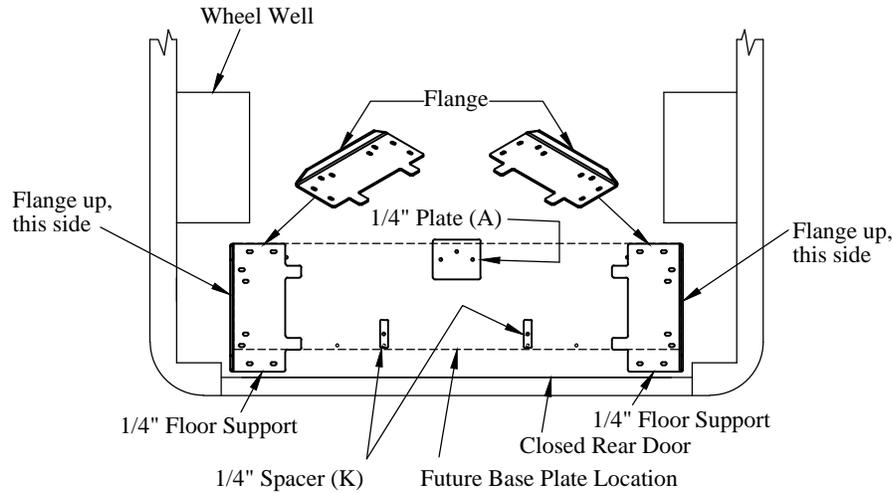

Figure 8: Floor support locations (top view).
1. **Position** the 1/4" floor supports in the van (Figure 8).
2. **Position** an additional 1/4" spacer at each "K" location (Figure 8).
3. **Position** the 1/4" plate at the "A" location (Figure 8).
- 4-3/4" from the the closed rear doors at the center (Figure 8).